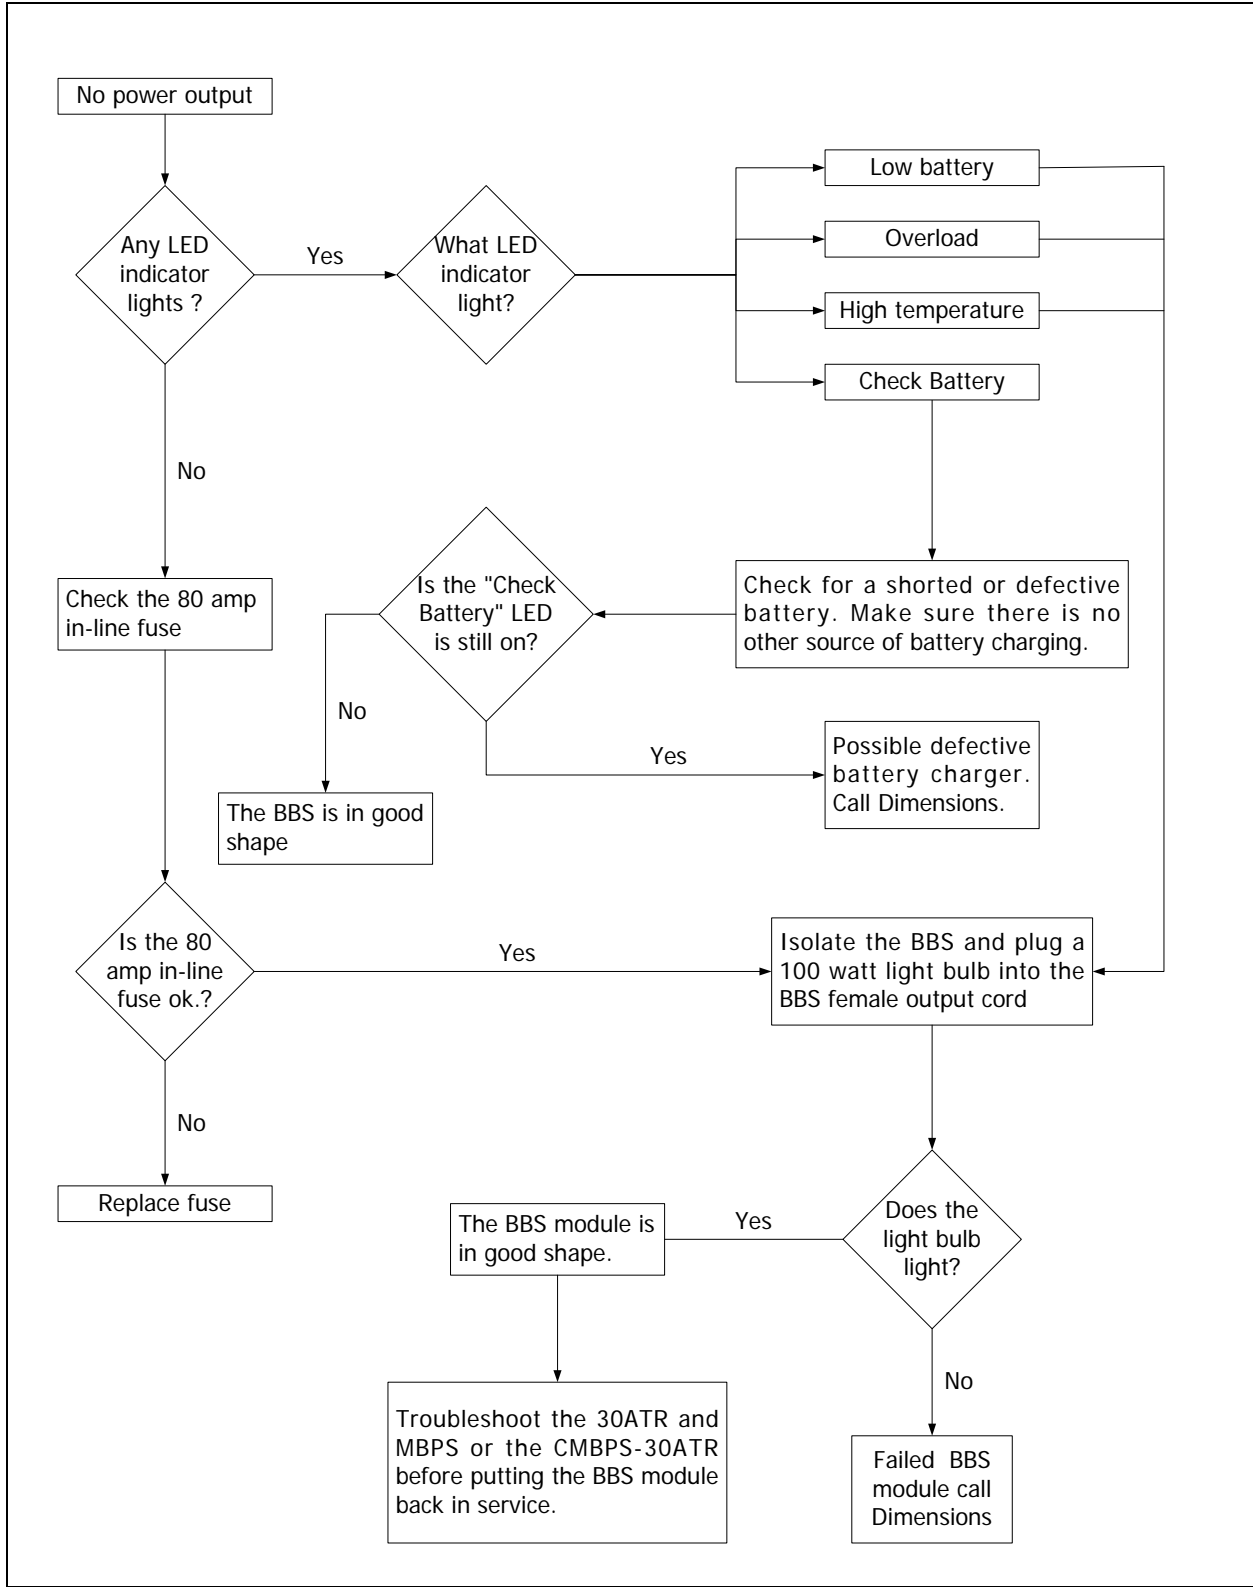

FIGURE 27: Troubleshooting Flow chart
- Observe the LEDs on the front control panel. Follow troubleshooting table 5 on page 34, and the Troubleshooting Flowchart Figure 27, page 35.